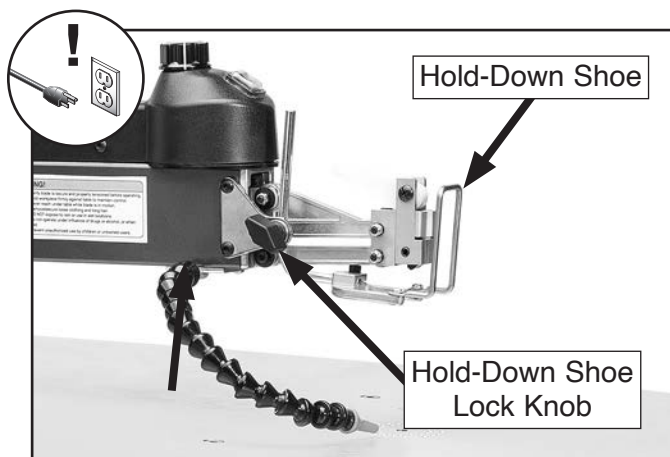

Figure 13. Hold-down shoe adjustment.
2. Loosen hold-down shoe lock knob (see **Figure 13**).